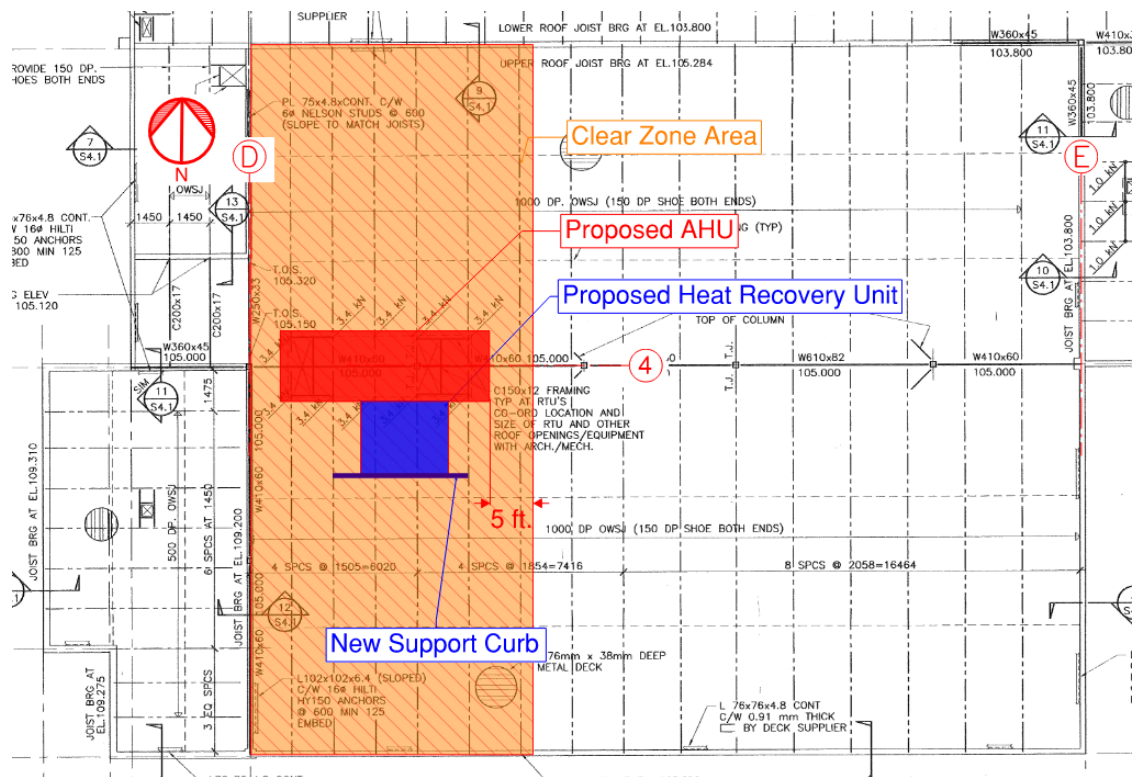

Figure 2: Roof partial framing with clear zone area
- A clear zone area around the new unit, which extends to the edge of each parapet in the north-south direction, and a minimum of 5'-0" (1524 mm) in the east-west direction must be maintained, including the underside of the roof deck (Figure 2). This area, including the top of the unit, must not be used to store any additional equipment or materials either on top of the roof or suspended at the underside.